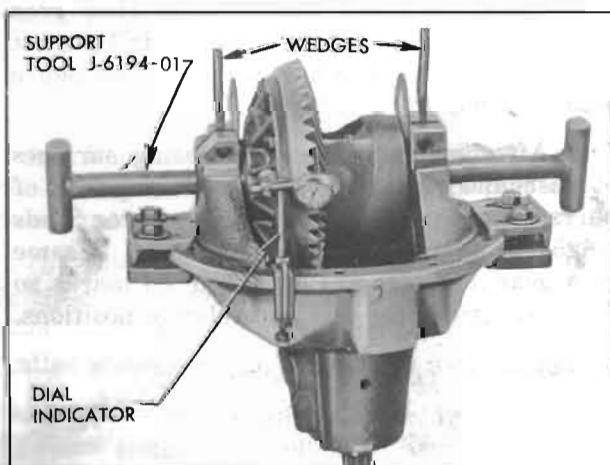

Figure 6-35—Positioning Differential for Correct Backlash
1. Place baffles in differential case. Drive differential bearing outer races into case, using Replacer J-6263. See figure 6-35.
2. Place case assembly and differential bearings in position in carrier. If same bearings are used, install in original positions. Insert Support Tools J-6194-01 through the pedestal bores into the bearing inner races. Press tools toward each other to seat them, using hand pressure. If support tools are loose, install pedestal clamp bolts and nuts and tighten lightly until support tools can just be moved by twisting them. If support tools are too tight, loosen them as necessary by slightly wedging pedestals open with chisels. See figure 6-35.